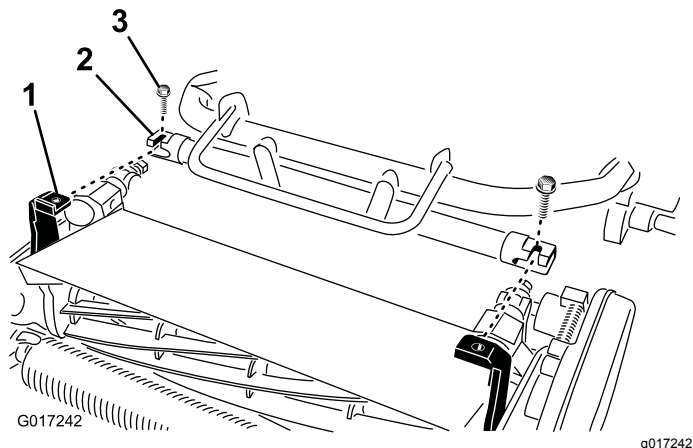

Figure 8
4. Maneuver the machine frame forward until it engages the cutting unit pivot arms (Figure 8).
5. Secure the machine frame to the cutting unit pivot arms with the 2 bolts (3/8 x 3/4 inch) (Figure 8).